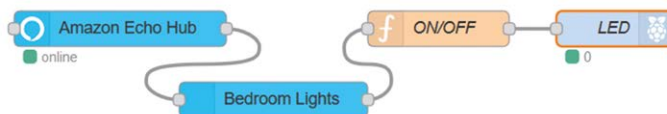
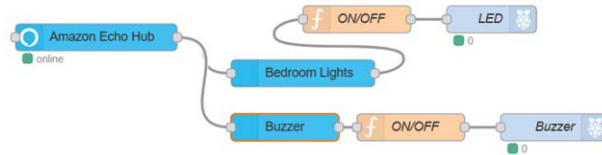
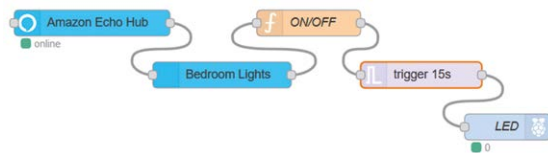

Figure 15.3 Flow program of the project
Figure 15.6 Flow program of the project
Figure 15.7 Modified flow program
Figure 15.3 shows the flow program which consists of just 4 nodes: an **amazon echo hub** node, an **amazon echo device** node, a **function node**, and a **rpi gpio out** node.
- Join all the nodes as in Figure 15.3 and click **Deploy**.
Node-RED flow program: Figure 15.6 shows the flow program. Notice that we have added another **amazon echo device** node to our program and named it as **Buzzer**. This second node drives another function node which has exactly the same content as the one in Figure 15.3. The second **rpi gpio out** node is used to drive the buzzer where its **Pin** is set to GPIO 3 and its **Type** is digital output as before. Because the new amazon echo device is not known to Alexa, we have to ask Alexa to discover nodes again: "**Alexa, discover devices**". After this, we can control the LED and the buzzer by asking the Alexa:
In the previous project, the LED is turned ON and OFF by sending spoken commands to Alexa. In some applications we may want to turn the LED ON by sensing a command, then we may want the LED to turn OFF automatically after some time. For example, before entering a room we may ask Alexa to turn the light ON and after 20 seconds we may want the light to turn OFF automatically. This can be done easily by adding a **trigger** node to Figure 15.3. In the example flow program shown in Figure 15.7, the LED is turned OFF after 15 seconds. The trigger node is configured to send 1 for 15 seconds and then it sends 0. Figure 15.8 shows the **trigger** node contents. Notice that the output of the **trigger** node is reset if msg.payload is equal to 0 (i.e. if Alexa is asked to turn the Bedroom Lights OFF).